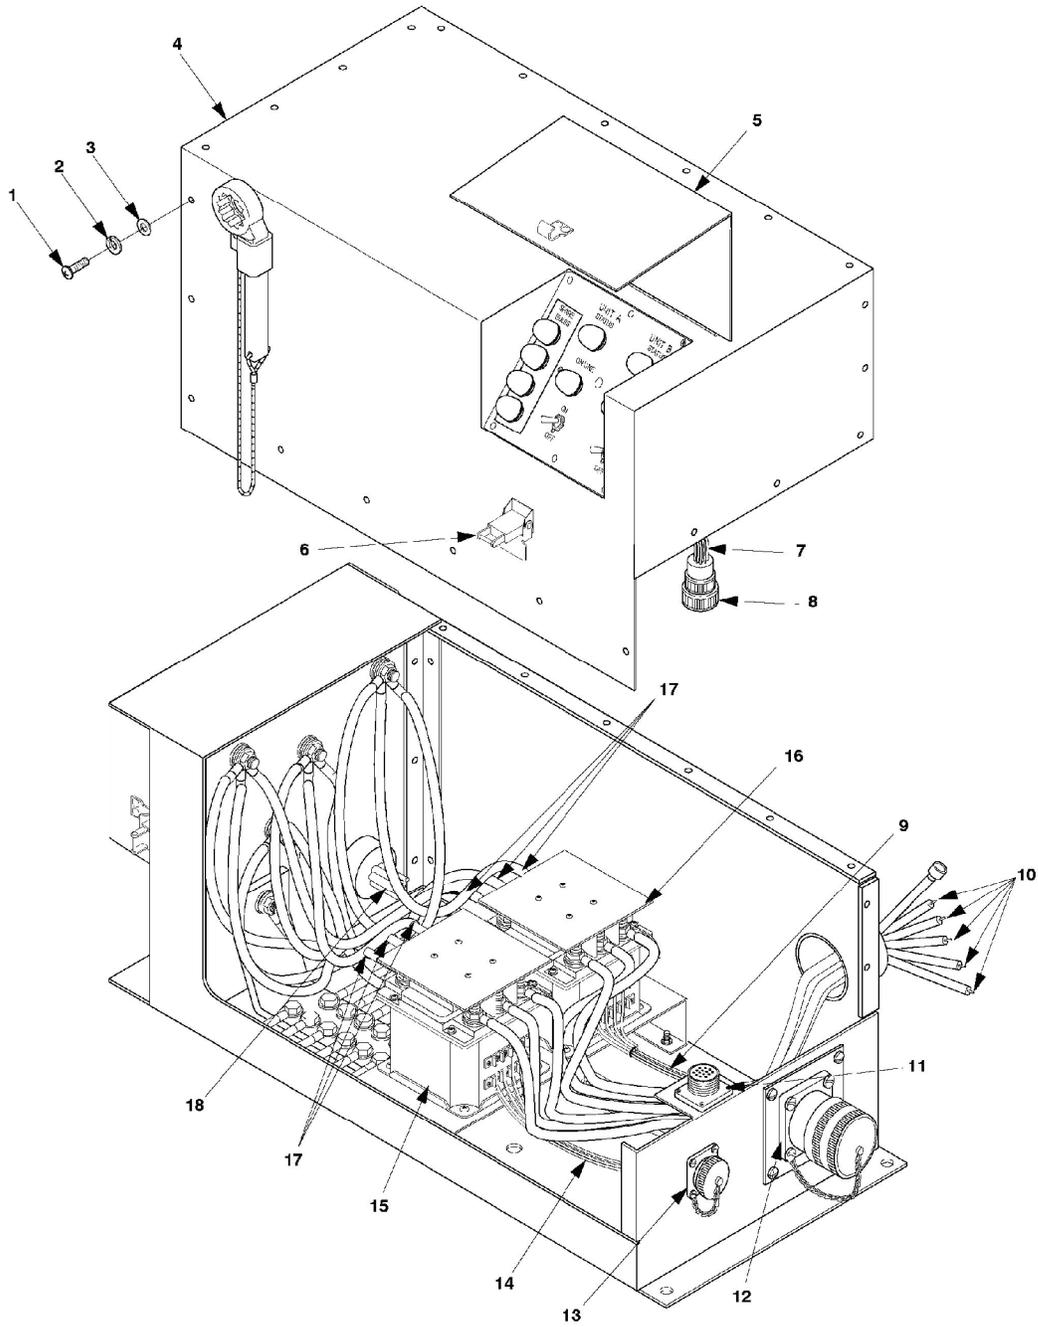

Figure 5-11. Switch Box Assembly Test (A Model).
- a. Remove 21 screws (1, figure 5-11), flat washers (3), and lock washers (2) that secure the switch box cover (4) to the switch box assembly. Discard lock washers (2).
- b. Carefully position switch box cover (4) in front of switch box.
- c. Disconnect P3 (8) from J4 (11) and set switch box cover (4) out of the way.
- a. Using a multimeter, test contactor K1 (15, Figure 5-11) as follows: